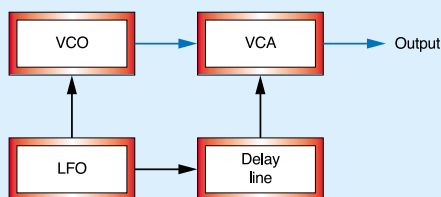

Figure 11: Recreating the phase and modulation characteristics of Figure 9.
► introduces the phase-shift between the frequency modulation and the amplitude modulation. Hooked together as in Figure 11 (below), these would generate a waveform exhibiting both vibrato and tremolo, but with the two 90 degrees (or some other desired amount) out of phase with one another.
pointing towards us, and duller when it points away. This suggests that the tonal modulation lies *in phase* with the loudness modulation, and that we can synthesize this — to a first approximation — by adding a low-pass filter modulated by the delayed LFO signal that is driving the VCA in Figure 11. The result looks like Figure 12 (see below).